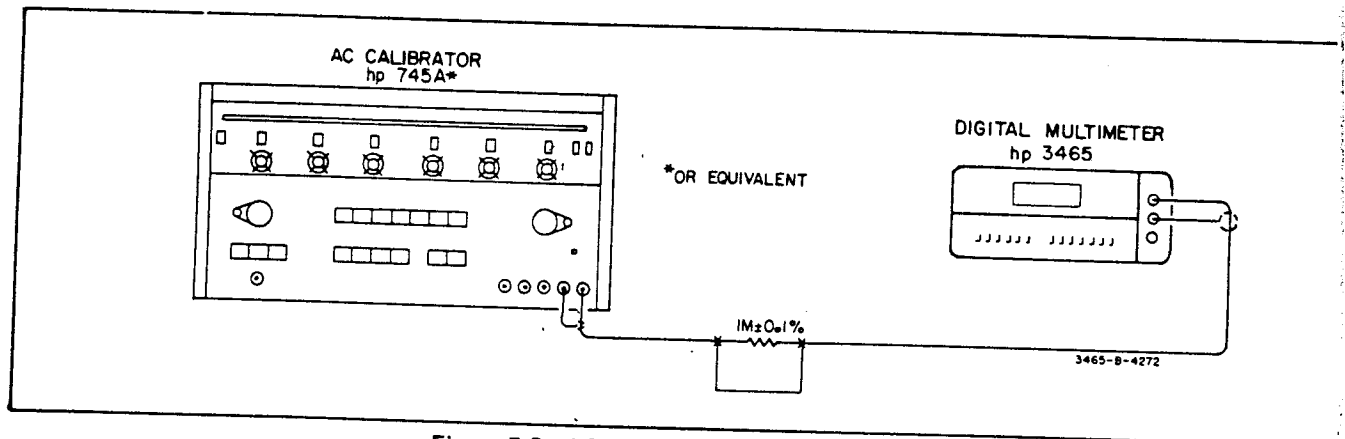

Figure 5-8. AC Voltmeter Input Impedance Test.
- Connect the AC Calibrator and a $1\text{ M}\Omega$ resistor as shown in Figure 5-8. Connect a jumper across the resistor.